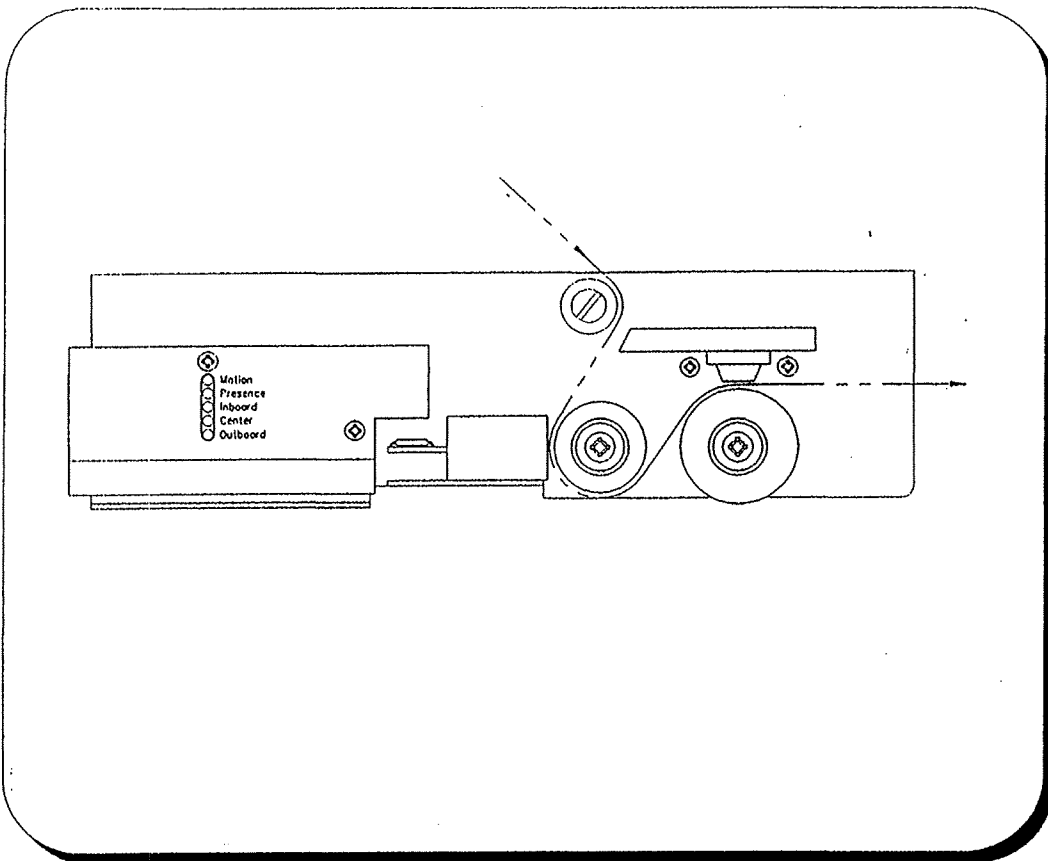

Figure 2. Fail Safe
2.1.4 Thread film through projector and fail safe. See Figure 2.